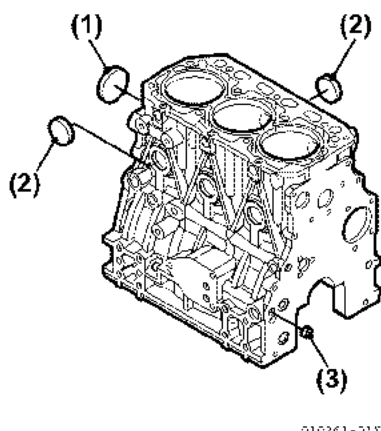

**Figure 5-56**
53. Remove the tappets from the tappet holes in the cylinder block (**Figure 5-56**).